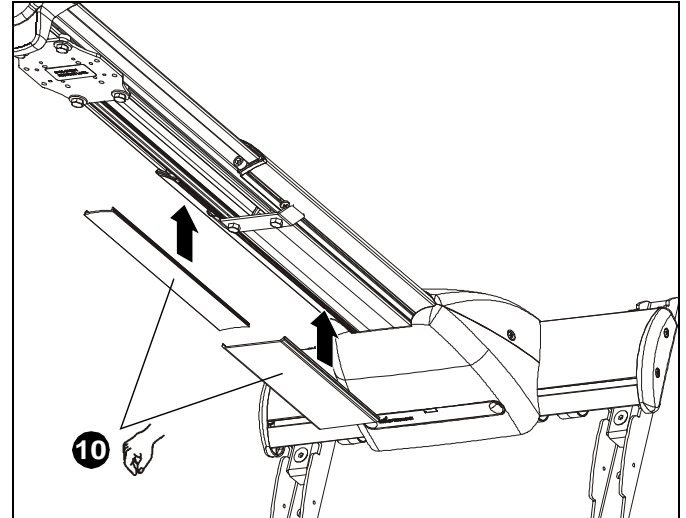

Figure 61
- Replace removed cable management covers (if necessary). Insert one side of cover into groove and press firmly on the cover on the other side until it snaps into the other groove. (See Figure 61)